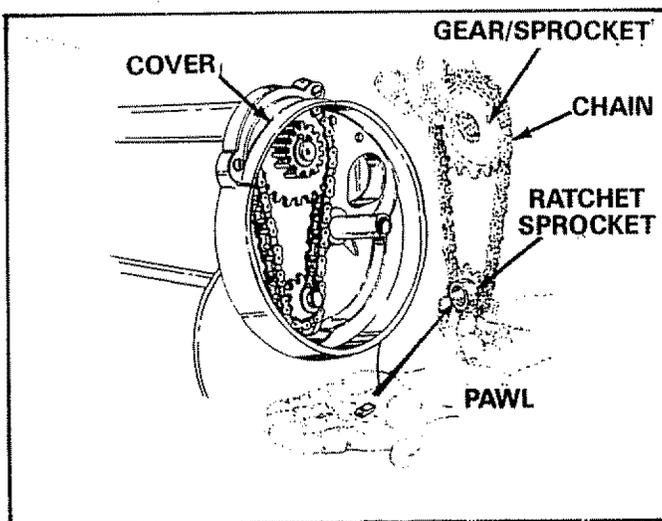

FIGURE 31
2. Cover must be removed to service chain, sprockets and pawl. (It is not necessary to remove cover if you are only cleaning and oiling the chain). See figures 31 and 32.
3. Removal and reassembly of chain requires that gear and sprockets be held in position with chain and slipped over both shafts. See figure 31.
4. The pawl, inside ratchet sprocket, has a curved end (side) and a flat end (side). See figure 31. When re-assembling ratchet sprocket and pawl, fill the inside with grease. Re-assemble the wheel and turn wheel, if the brushes drive (rotate) in both directions, the pawl is assembled incorrectly, remove and flip pawl over. If the brushes drive (rotate) in one direction the pawl is assembled correctly.